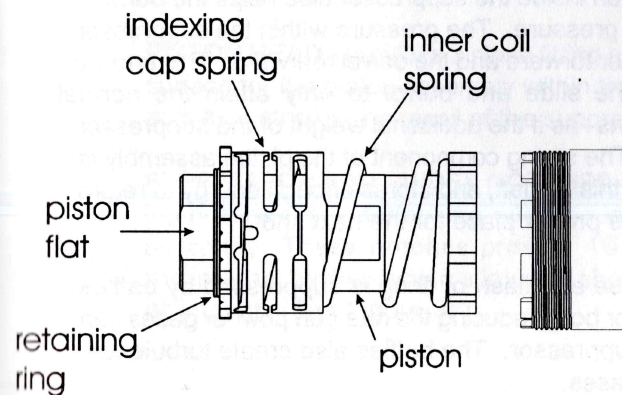

Figure 3 - Piston Assembly (detail)
- E. **SUPPRESSOR BODY INDEX NOTCHES** - provides 10 corresponding notches for interlocking with the indexing cap of the piston assembly. These notches provide 10 discrete orientations of the internal baffles which allow the shooter to adjust their point-of-impact. (See Figure 3)